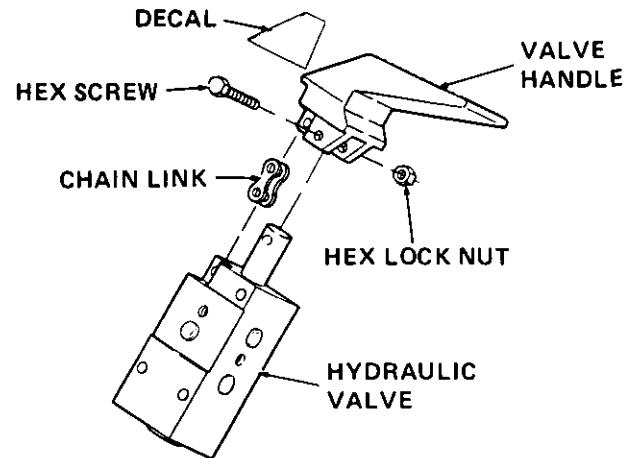

Figure 10
- b. Position the valve handle (B) to the hydraulic valve as shown in Figure 10, and secure with hex cap screw (C) and hex center lock nut (D).
- c. Attach the chain link to the valve and handle as shown in Figure 10.
- d. Attach the label (F), with picture of closed cylinder on top, to the valve handle. Refer to Figures 10 and 14.